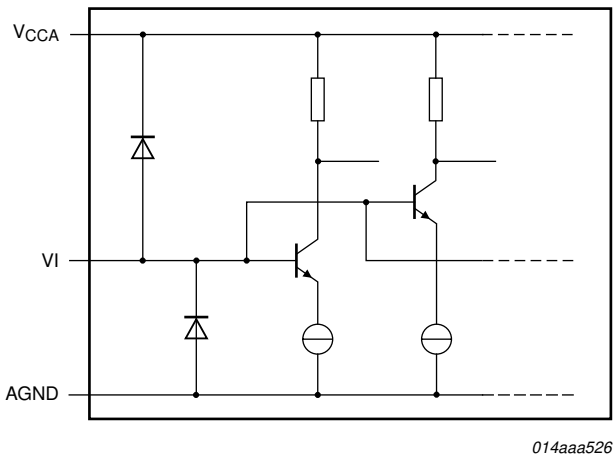
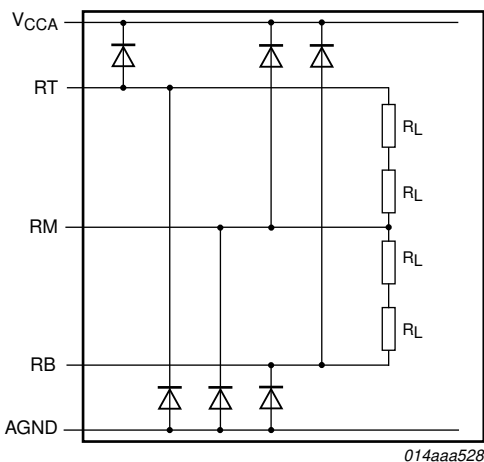

Fig 8. VI analog input
Fig 10. RB, RM and RT inputs
• Corrections made to INL and DNL conditions in Table 1. • Corrections made to several entries and notes in Table 6. • Correction made to table description in Table 7. • Correction made to column D9 to D0 in Table 10. • Correction made to Figure 8. • Correction made to Figure 10.